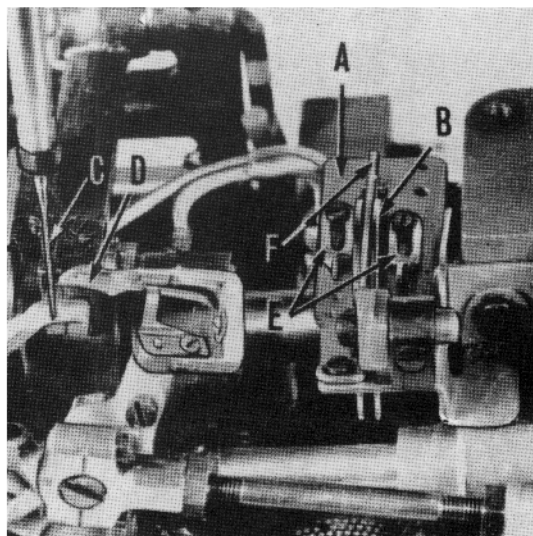

Fig. 13
The cast-off plate (A, Fig. 13) should be set over the take-up so that there is equal clearance on each side. The looper thread take-up (B) is not spotted on the main shaft, and consequently, can be set to compensate for varying conditions. It is set correctly, when the looper thread is just cast off the highest lobe of the take-up when the point of the needle (C) is clearly visible below the underside of the looper (D). The looper thread eyelets (E), located on the cast-off plate, are adjustable, and their setting determines the amount of thread pulled off by the take-up. Moving the eyelets to the rear causes more thread to be pulled from the cones, and moving them forward causes less thread to be pulled off. Set the eyelets so that, when the looper reaches its extreme position to the left, all the slack has been removed from the looper thread, but it has not become taut. The retaining finger (F) controls the amount of slack thread in the system, and it is set correctly when it prevents the looper thread triangle from being wiped under the blade of the looper when the looper moves from right to left.